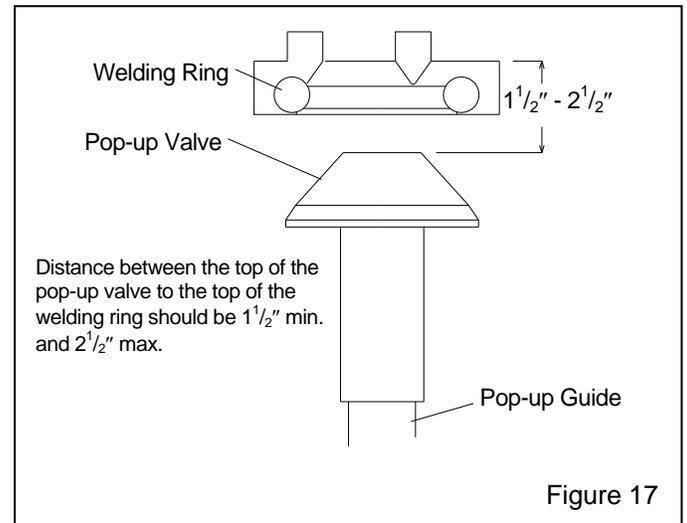

Figure 17
6.8.6 Refer to Figure 17 to check the pop-up height. If the pop-up sits too low, misalignment could occur when the pop-up comes up against the seal. If the pop-up sits too high, it will take longer for abrasive to flow through the opening. Adjust the height by replacing the guide with one that is longer or shorter.